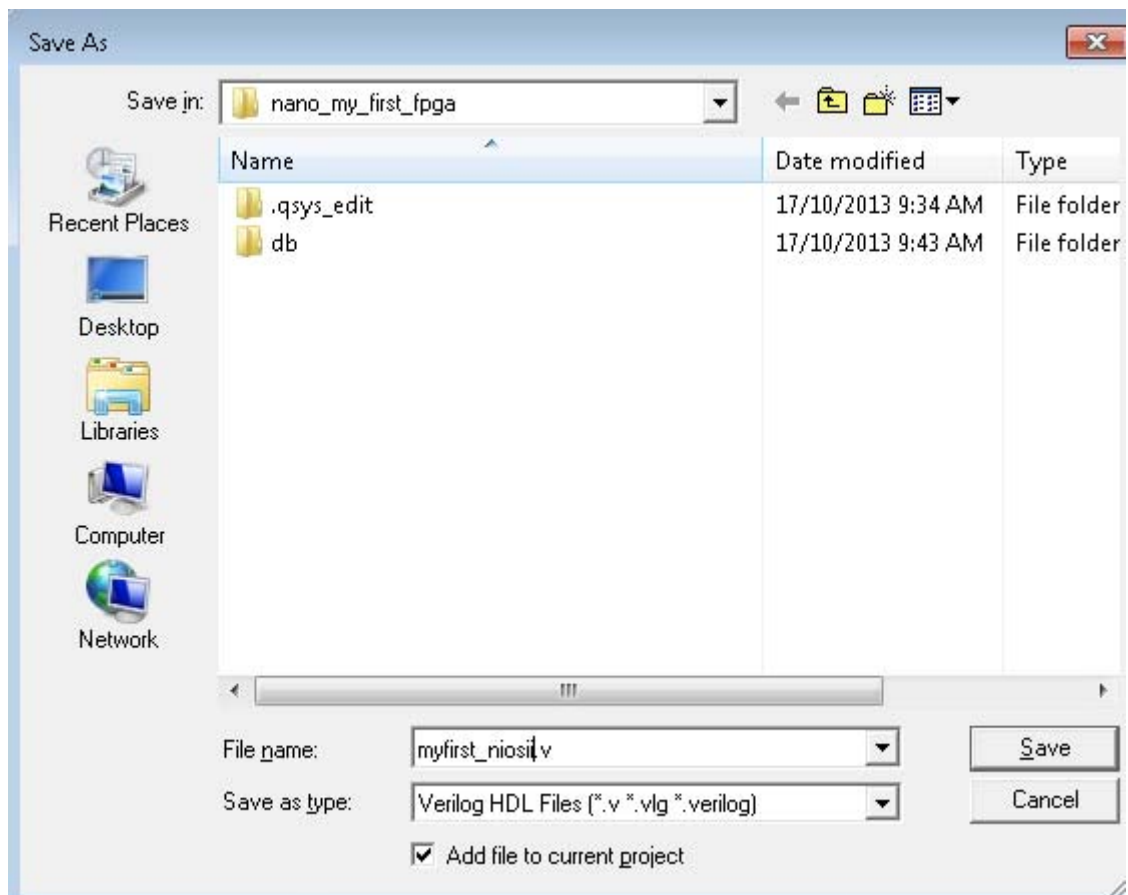

Figure 1-57 Save Verilog file
35. Choose **Save** Icon in the tool bar. There will appear a window as shown in **Figure 1-57**. Click **Save**.